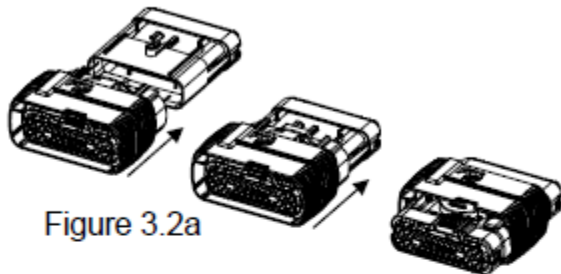

Figure 3.2a
- Grip the Female Connector by the slider. Engage the male and female connector halves in the proper orientation by sliding the female connector onto the male side. When adequate engagement is achieved, the slider will release from the female connector and begin to slide along the system. (See Figure 3.2a)